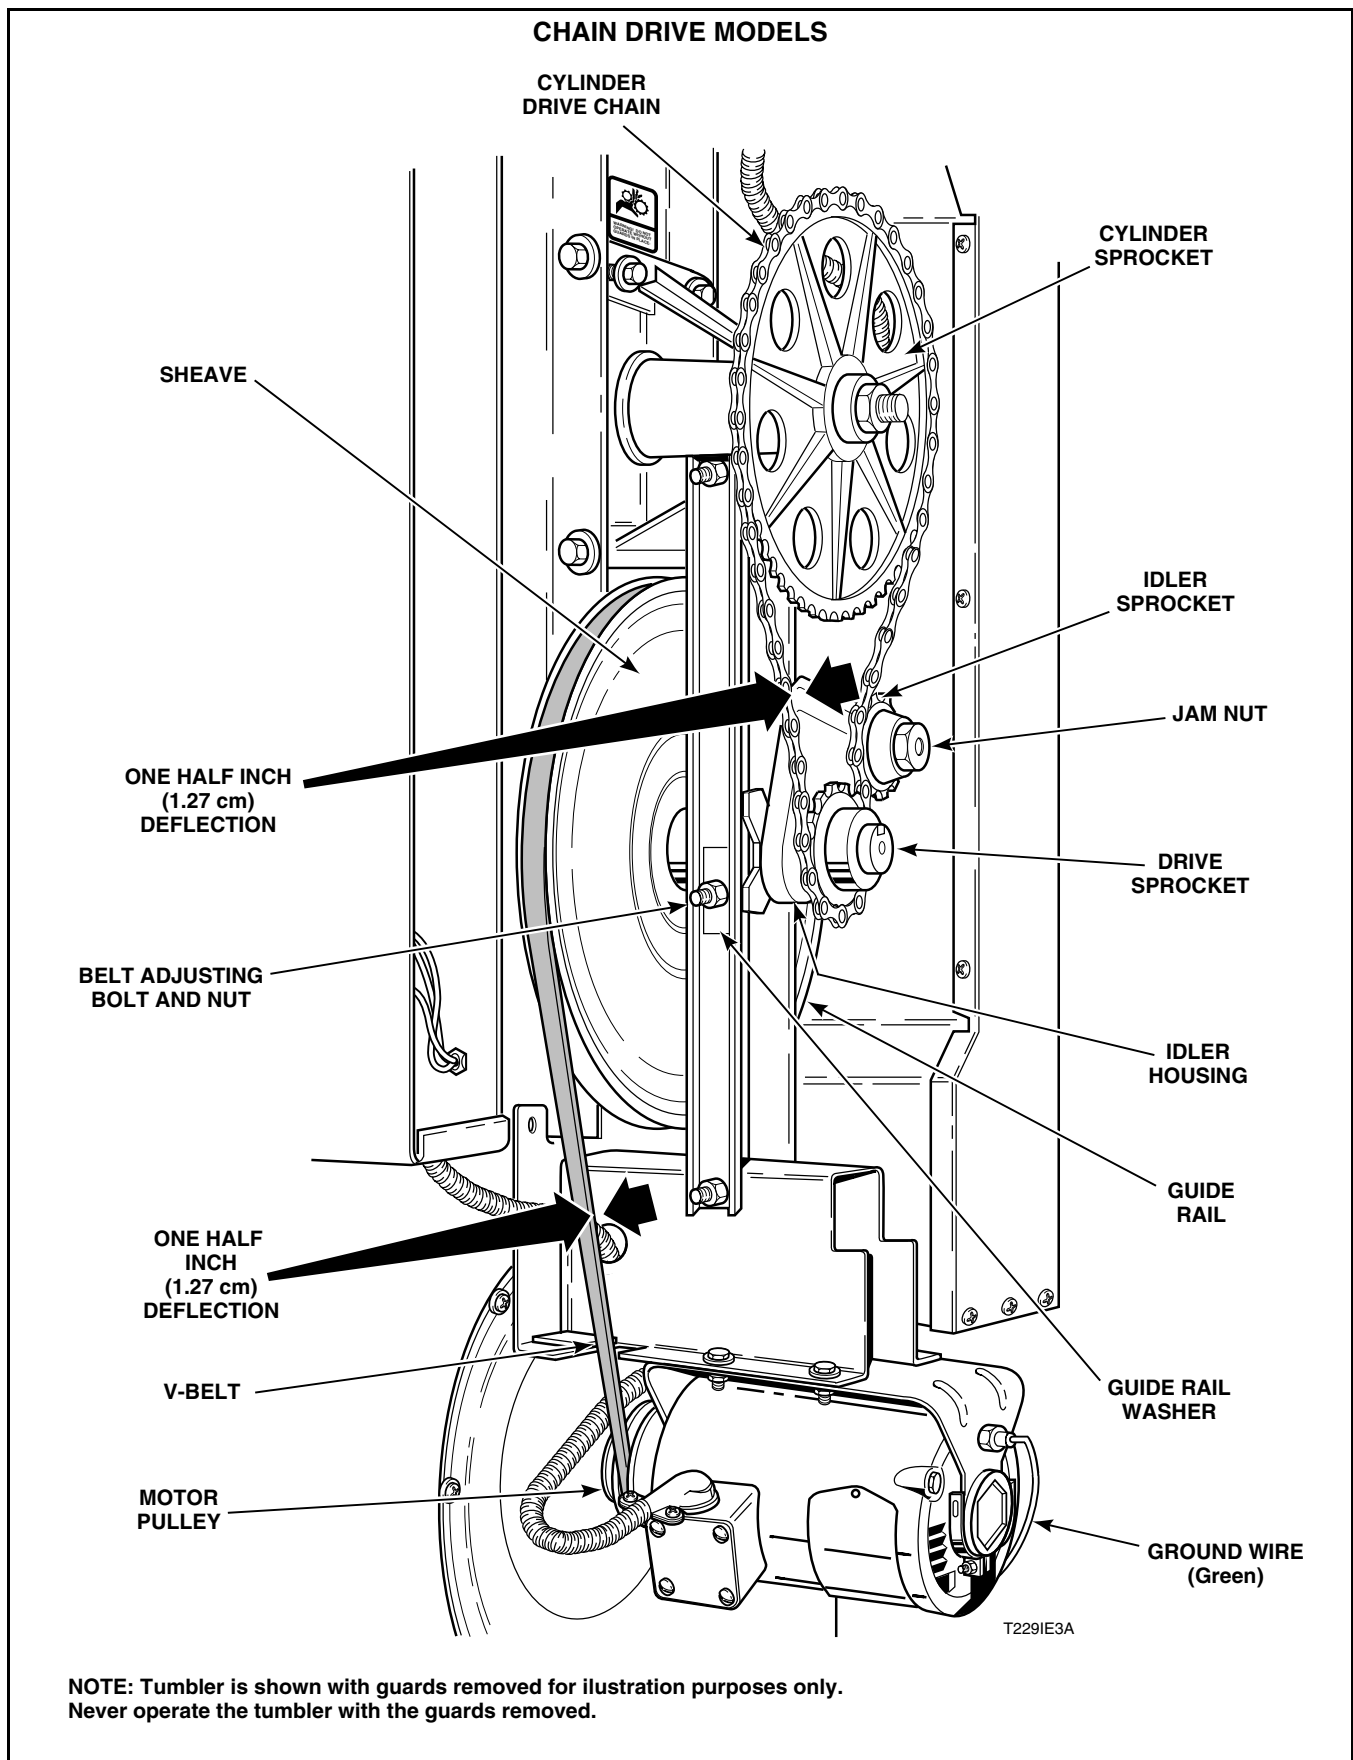

Figure 53
Refer to *Figure 53*.
**IMPORTANT:** After tumbler has been in operation over an extended period of time, a “HIGH POINT” will develop on the cylinder drive sprocket from use and wear. Turn sprocket manually with drive chain in place until this “high point” is at the top center. The “high point” can be found by noticing increased chain tension while slowly rotating the cylinder sprocket manually. Chain must be at the “high point” when making the adjustment. Refer to *Figure 53*.